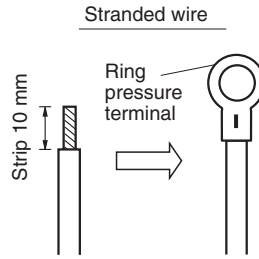
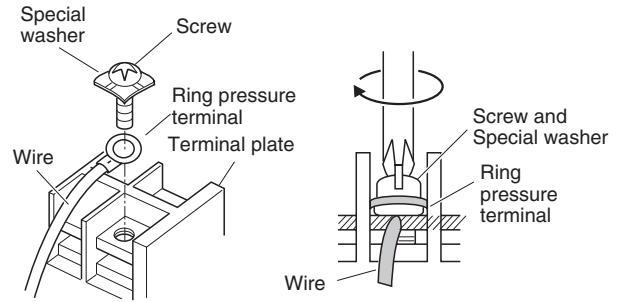

Fig. 4-8
Fig. 4-9
- (1) Cut the wire end with cutting pliers, then strip the insulation to expose the stranded wiring about 10 mm and tightly twist the wire ends. (Fig. 4-8)
- (2) Using a Phillips head screwdriver, remove the terminal screw(s) on the terminal plate.
- (3) Using a ring connector fastener or pliers, securely clamp each stripped wire end with a ring pressure terminal.
- (4) Place the ring pressure terminal, and replace and tighten the removed terminal screw using a screwdriver. (Fig. 4-9)